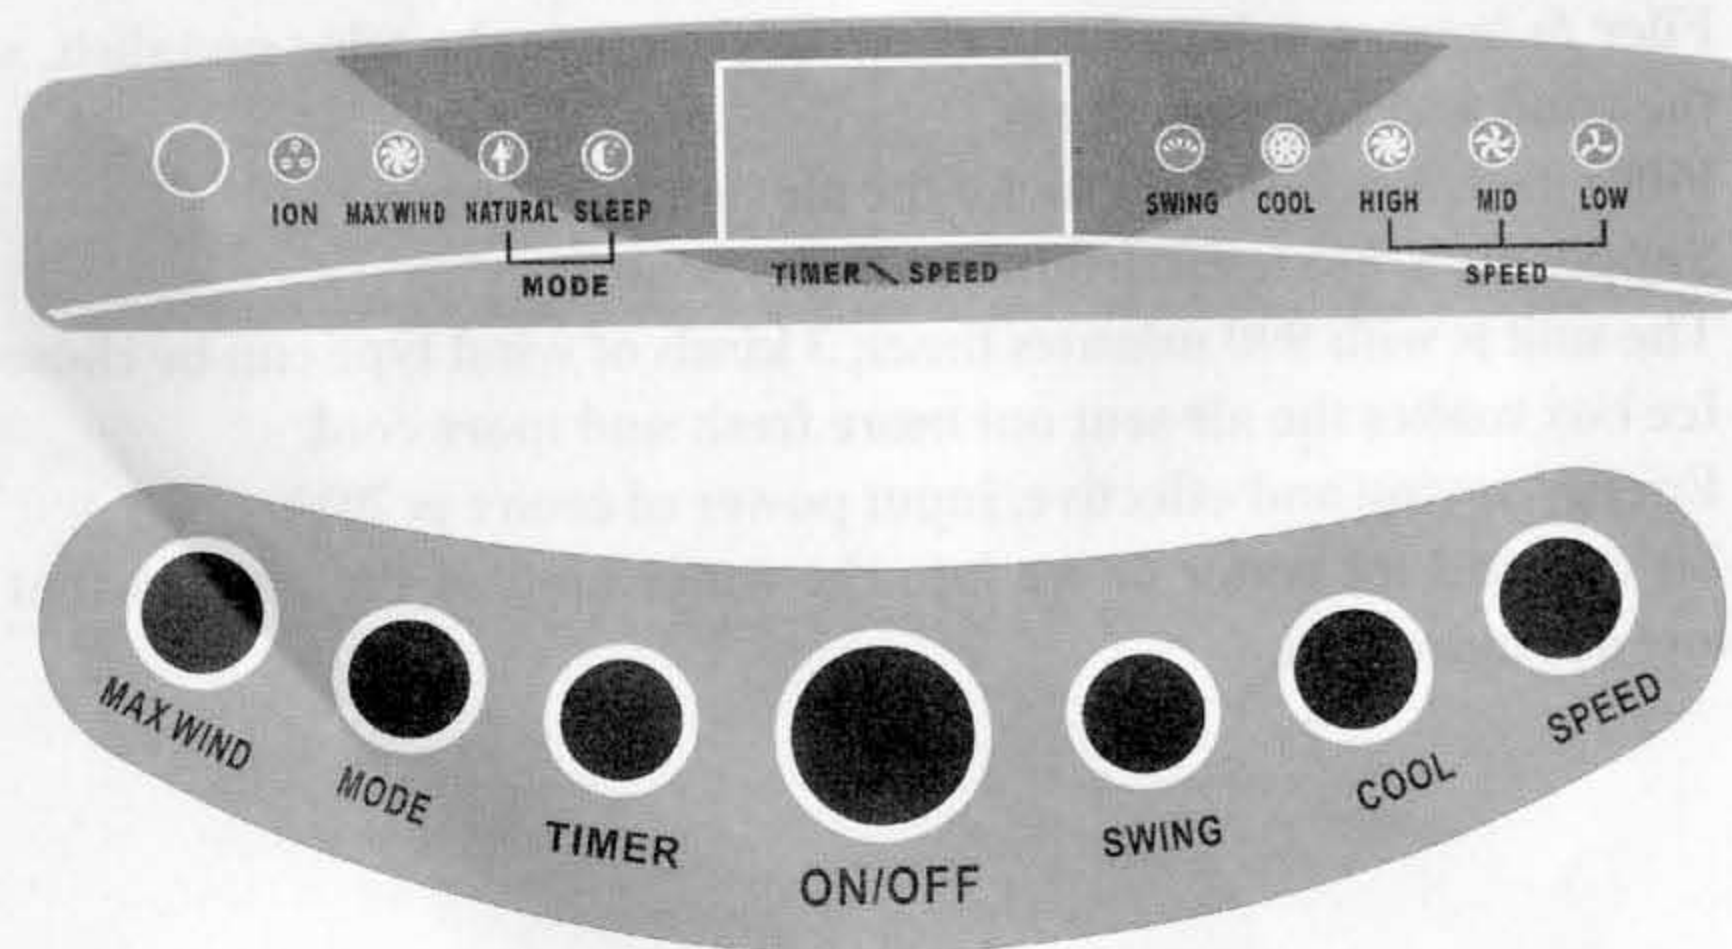

Fig 1 (control panel)
1. Control panel, functions (Fig 1).